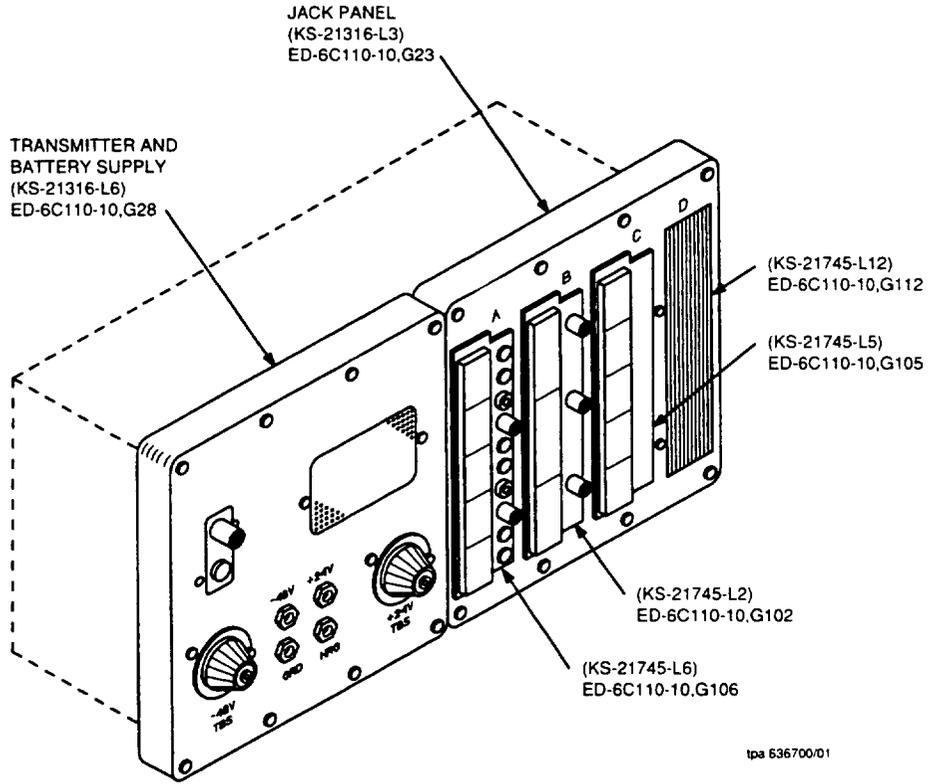

Figure 21. ED-6C110-10, Group 23 Miniature Test/Talk Panels
10.03 The miniature test/talk system contains a transmitter and battery test panel, as well as a jack panel equipped with talk and test jacks (Figure 21). The equipment is usually mounted on shelf number 3 of a cross-connect bay.